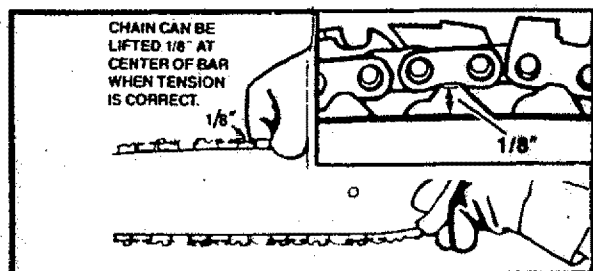

Figure 11
2. While still holding the tip of the guide bar up check the tension by lifting the chain from the guide bar at the center of the bar. Figure 11.
5. Recheck tension. See Figure 11.